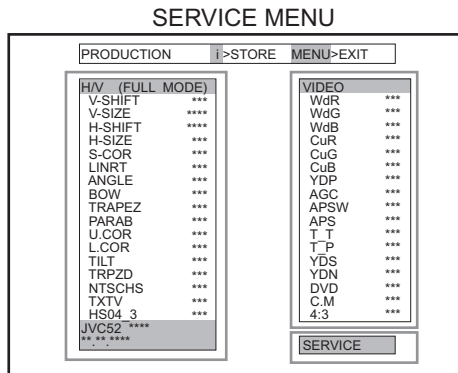

Fig.1
- (1) Press the [INFORMATION] key and [MUTING] key simultaneously, and the SERVICE MENU screen (Fig.1) will be displayed.